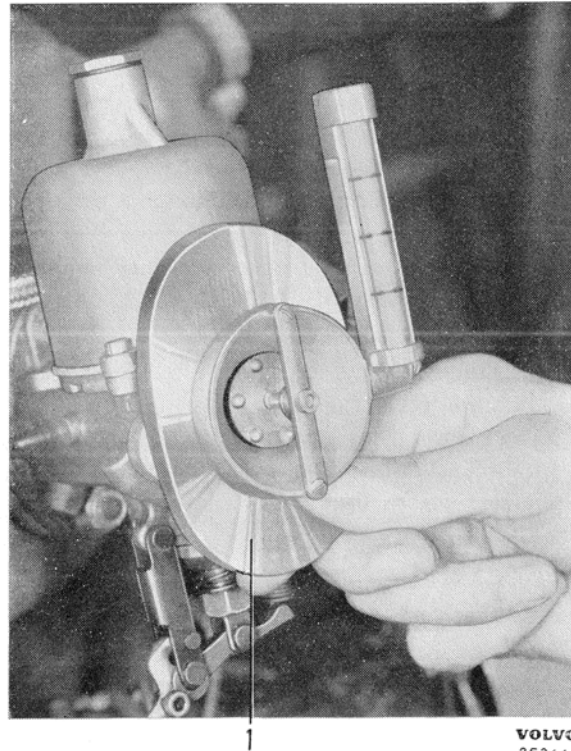

Fig. 20. Measuring air flow for identical settings on both carburetors.
4. Start the engine. Check that the throttles are open to the same extent in both carburetors by fitting a special vacuum-meter to each air cleaner contact surface. See Fig. 20. Adjust the idling screws until the meter reading on both carburetors is exactly the same.